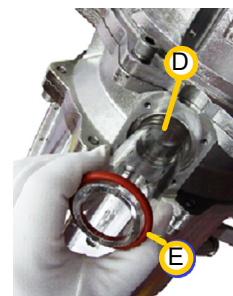

Figure 10-38: Quartz Sleeve and O-ring (Generic View)
- Two O-rings (See view B in **Figure 10-38** below)
- Step 38.** Mount a new O-ring onto the quartz sleeve (as shown in **Figure 10-38** above) and insert the sleeve into the Unit from the lower side until it reaches the other side. Make sure it is centered as you insert it.